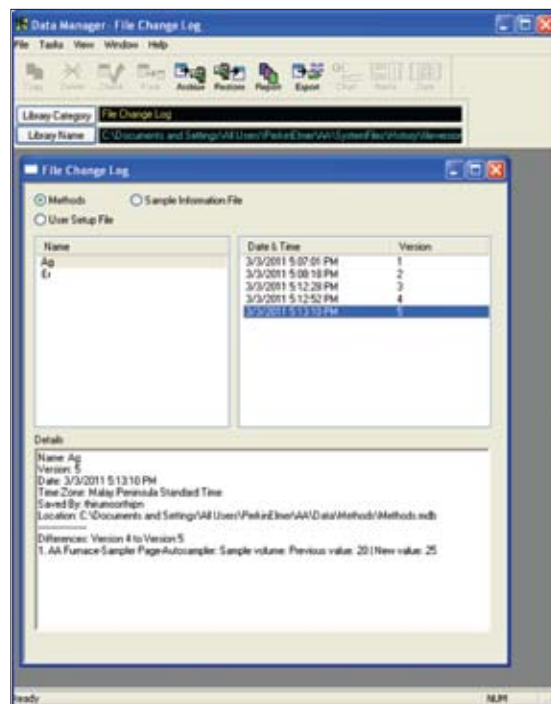

Figure 3. Viewer for the File Change Log where differences between versions of files and data objects are displayed.
- The software automatically adds version numbers to all files and data sets, records the changes between versions, and automatically moves old versions to a history directory. Changes can be viewed using the Data Manager (Figure 3). The software restricts all users to choosing file names from a common pool. In this way, files are uniquely identified across the system, regardless of the analyst creating or using them.